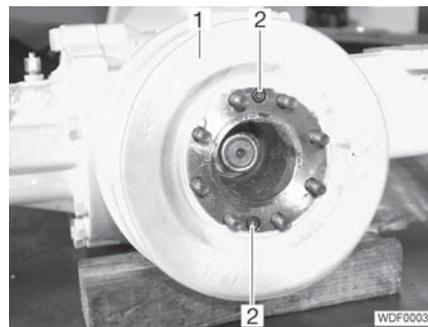

Fig. 265 Brake drum
- Unscrew the 2 screws (Fig. 265,2).
- Remove the brake drum (Fig. 265,1).